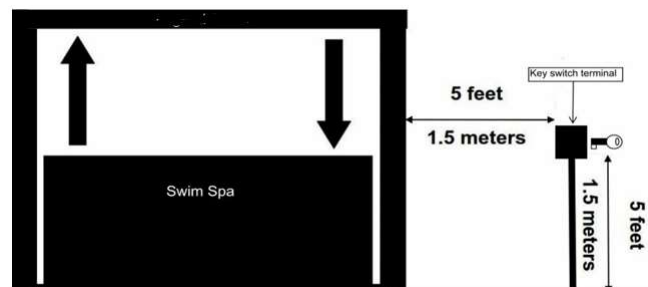

Figure 1
- The key switch must be permanently mounted and located 5 ft. (1.5 m) away from the spa and 5 ft. (1.5 m) above the deck or ground level. Ensure the user has a clear view of the COVANA cover when operating it. Furthermore, the key switch terminal should be located in a place where no water downpour or debris could fall on it. (Figure 1)